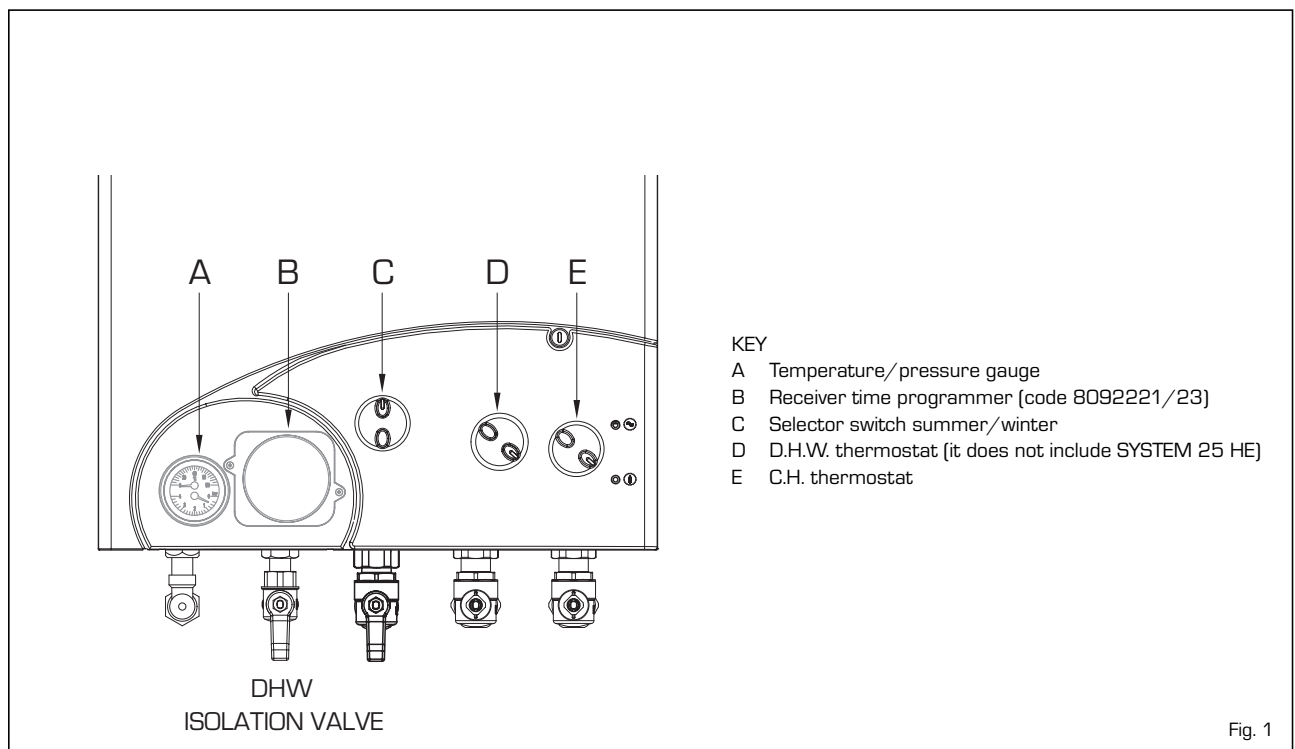

Fig. 1
1.3.1 To light the appliance (see fig. 1)
- Turn the selector switch summer/winter (C) to SUMMER (water only) position "☼".
1.3.2 To turn off the appliance (see fig. 1)
The gauge (A fig. 1) on the facia panel indicates the approximate system pressure. The normal operating pressure is between 1 and 1.5 bar. The pressure is maintained with the use of an external filling loop, fitted at the time of installation. This is usually close to the boiler. To increase the pressure, firstly connect the flexible hose, then turn on the isolation valve until the pressure is between 1 and 1.5 bar. Turn off the valve and disconnect the hose. If the normal running pressure is seen to decrease over a short period of time there is